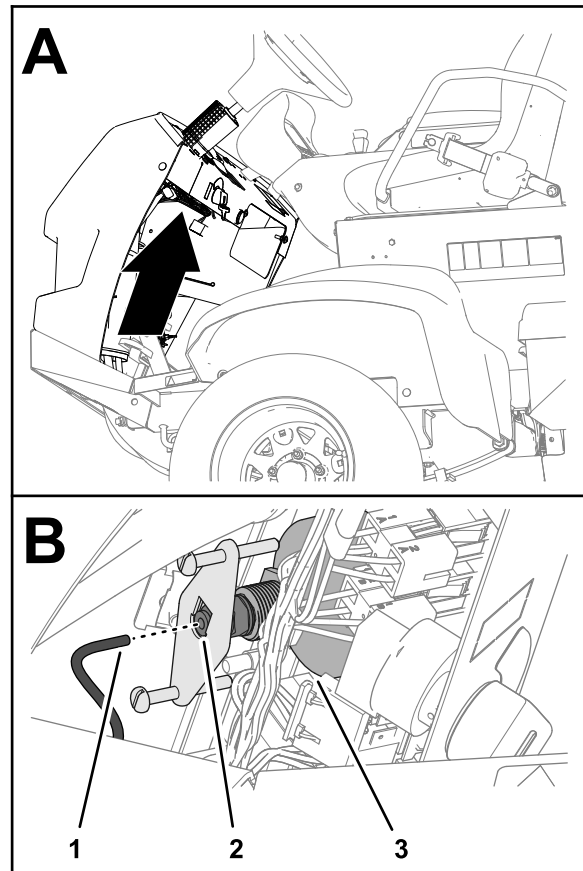

Figure 138
5. Remove the tube from the back of the pressure gauge and place the end of the tube into a container (Figure 138).